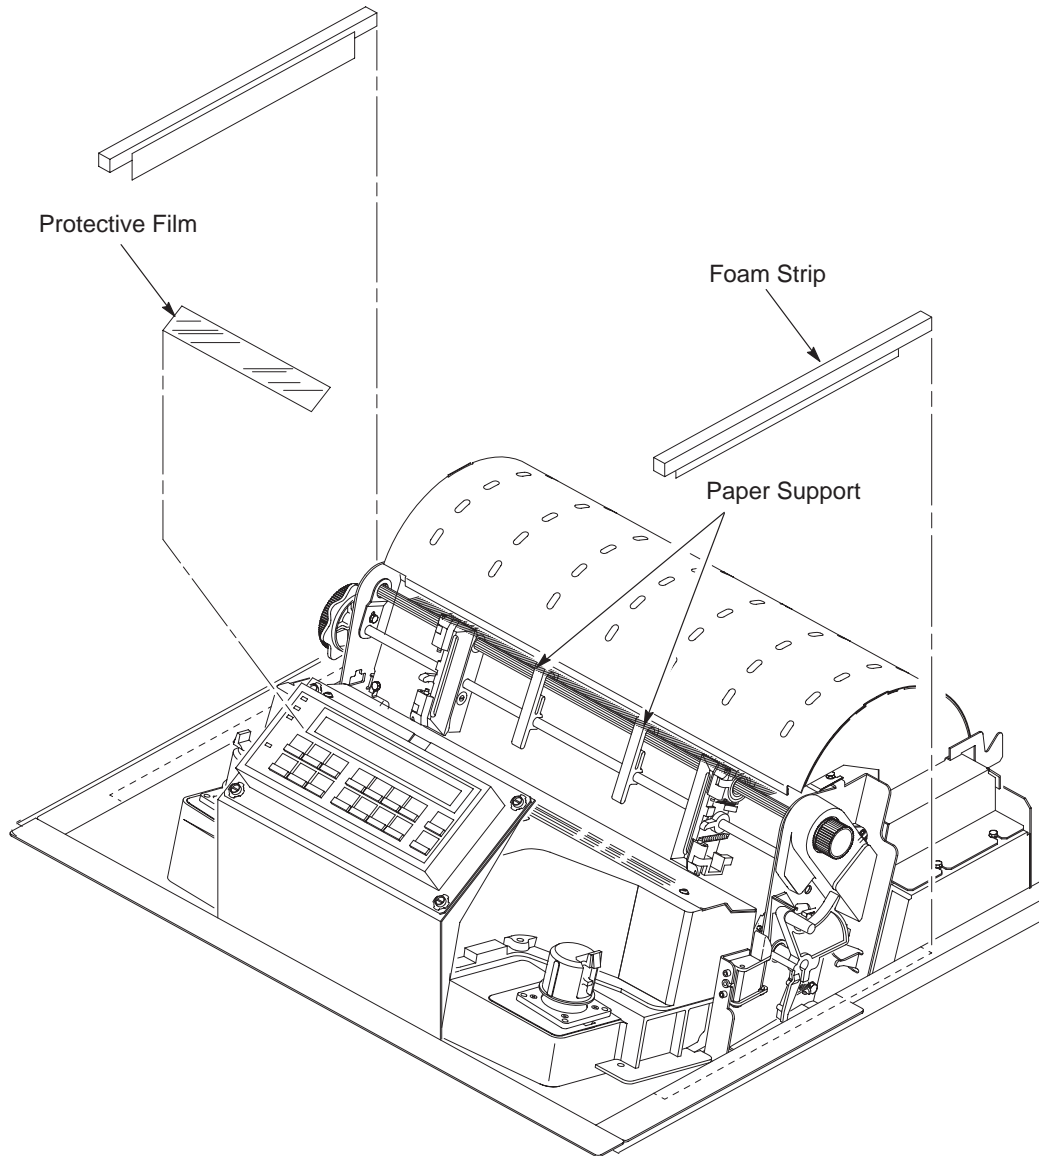

Figure 2-7. Removing the Foam Strips and Protective Film
1. Slide the two paper supports toward the center of the support shaft. Position them so that they divide the space between the tractors into three approximately equal segments. See Figure 2-7.